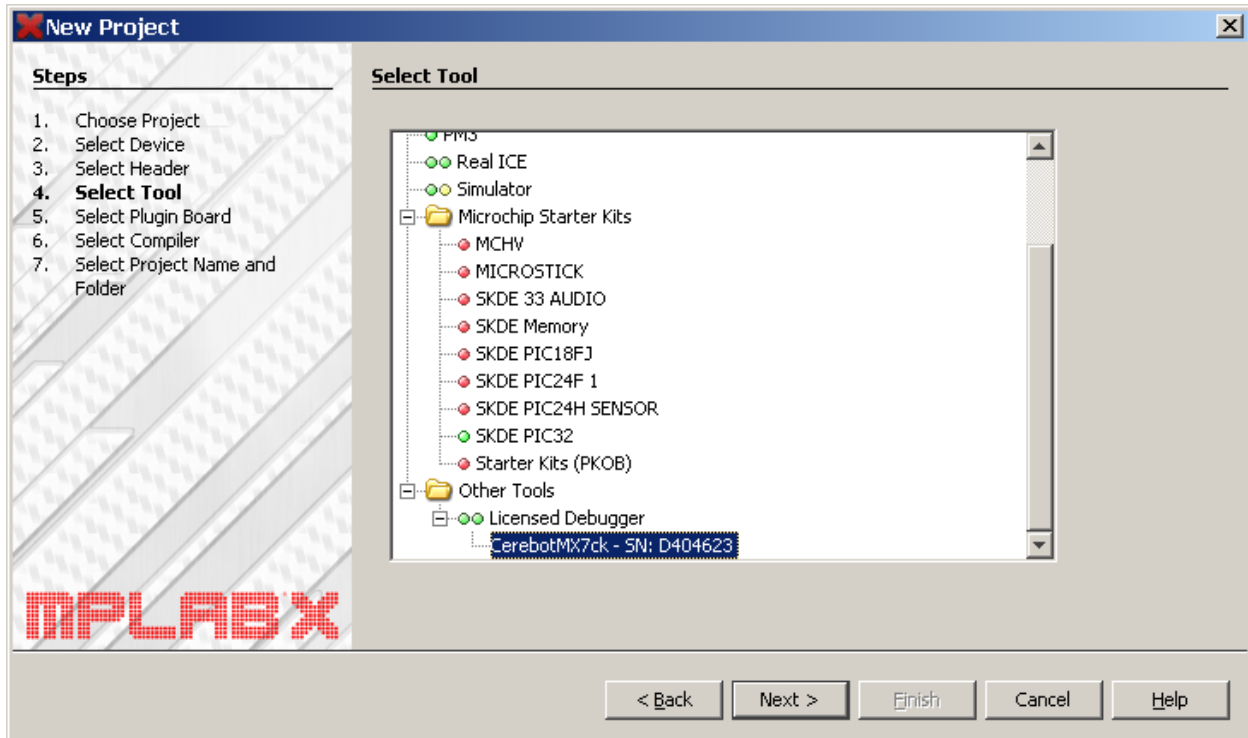

Figure 8. Step 4 window that selects the debugging hardware
- F. In step 4, we select the debugging tool using the window shown in Figure 8. The debugging tool provided by Digiilent for the Cerebot MX7cK processor board appears under the Other Tools folder. If a Cerebot MX7cK processor is connected to the PC via the USB cable and the power to the board is turned on, the board's serial number will show on the list. Note: After the project has been built, if the project launched when the PC is connected to a different Cerebot MX7cK processor board, MPLAB X will prompt you to approve the connection to the new board.